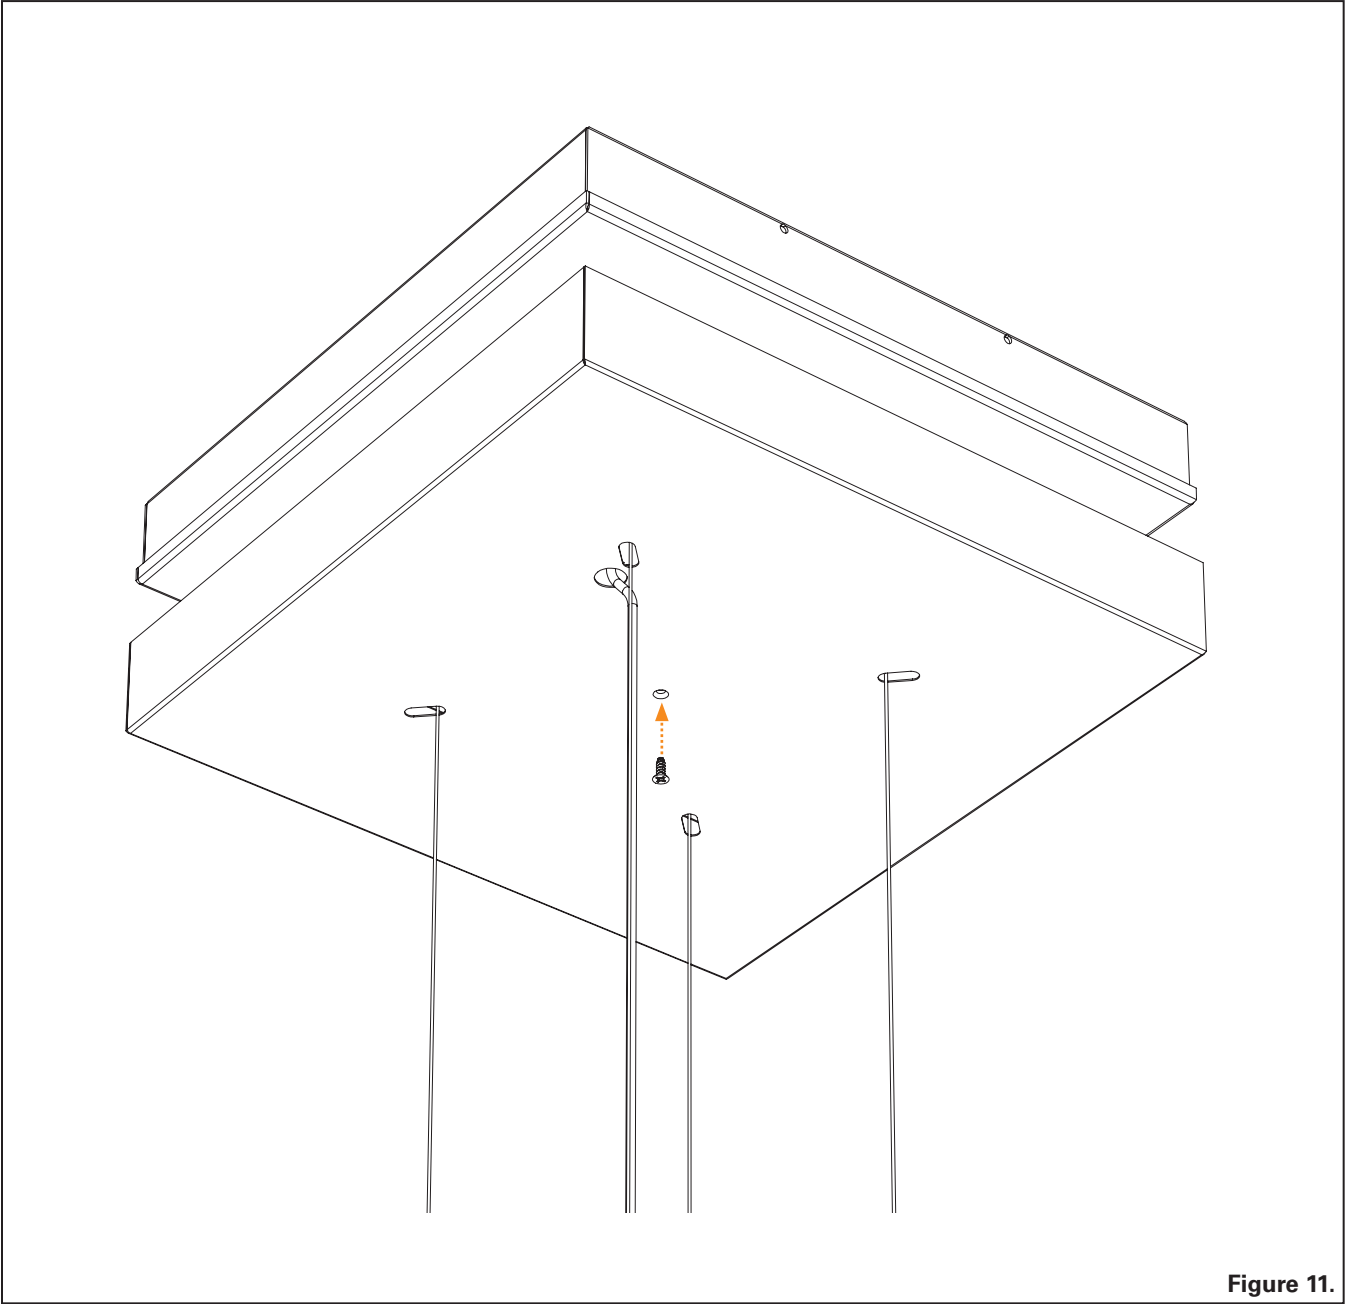

Figure 11.
**Step 11a.** Raise Decorative Cover and attach to the Driver Compartment using 1X flat head screw (head painted white). Ref. Figure 11.
**Step 11b.** Use Tie Wraps to keep the Low Voltage Cable tight against the Air Craft Cable. Ref. Figure 11.
**Step 11c.** Pull Low Voltage Cable tight to Air Craft Cable. Ref. Figure 11.